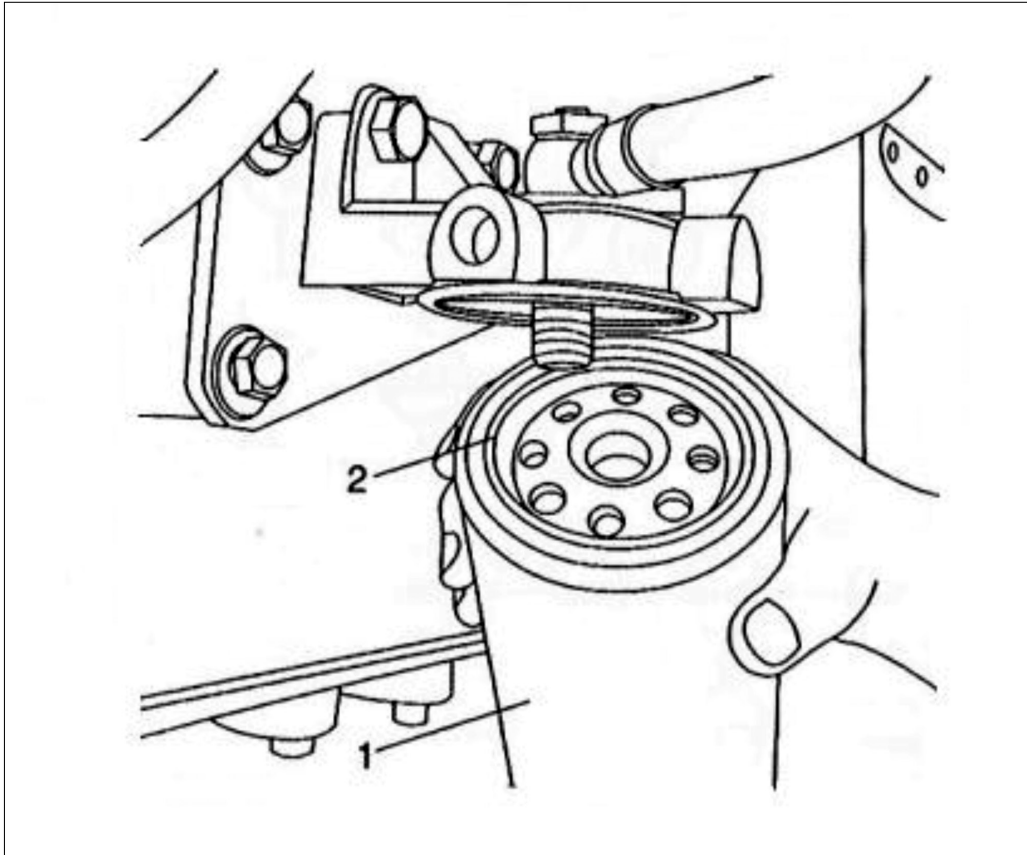

Figure 3-19
- Check tightness of fuel filter. Detailed operation is shown in Fig. 3-19.